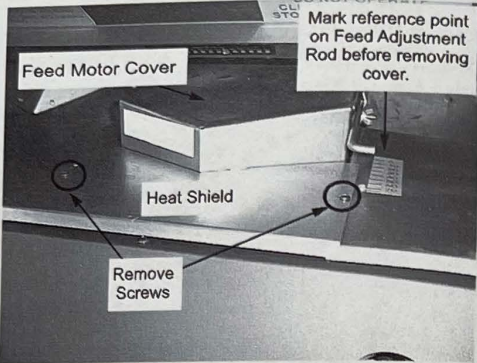

Figure 3
**NOTE:** Place a reference mark on the feed adjustment rod in relation to its position on feed motor cover (Figure 3). This will eliminate the need to re-set the feed rate when you are done.
2. Remove two (2) screws from heat shield and then remove the heat shield; set aside (Figure 3).